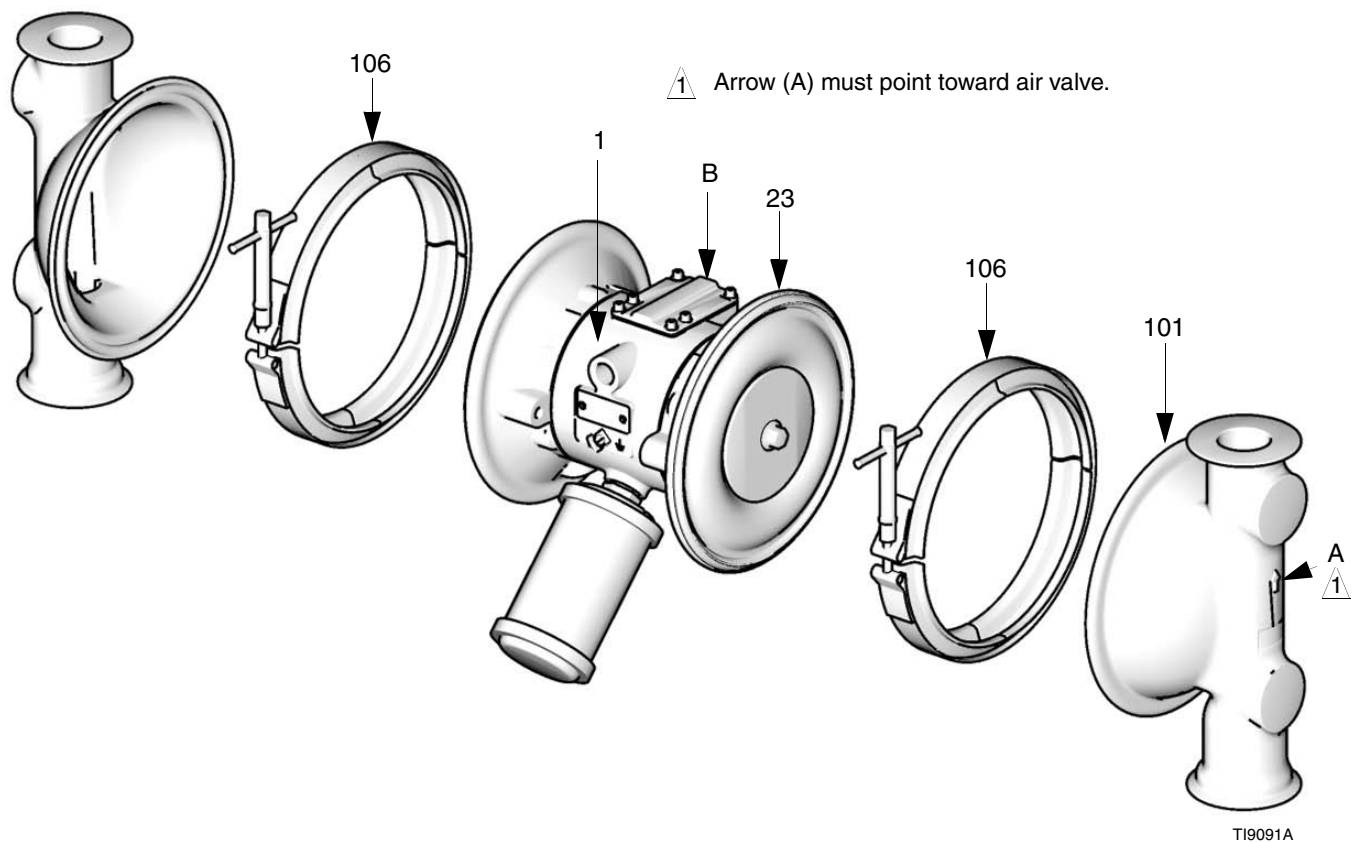
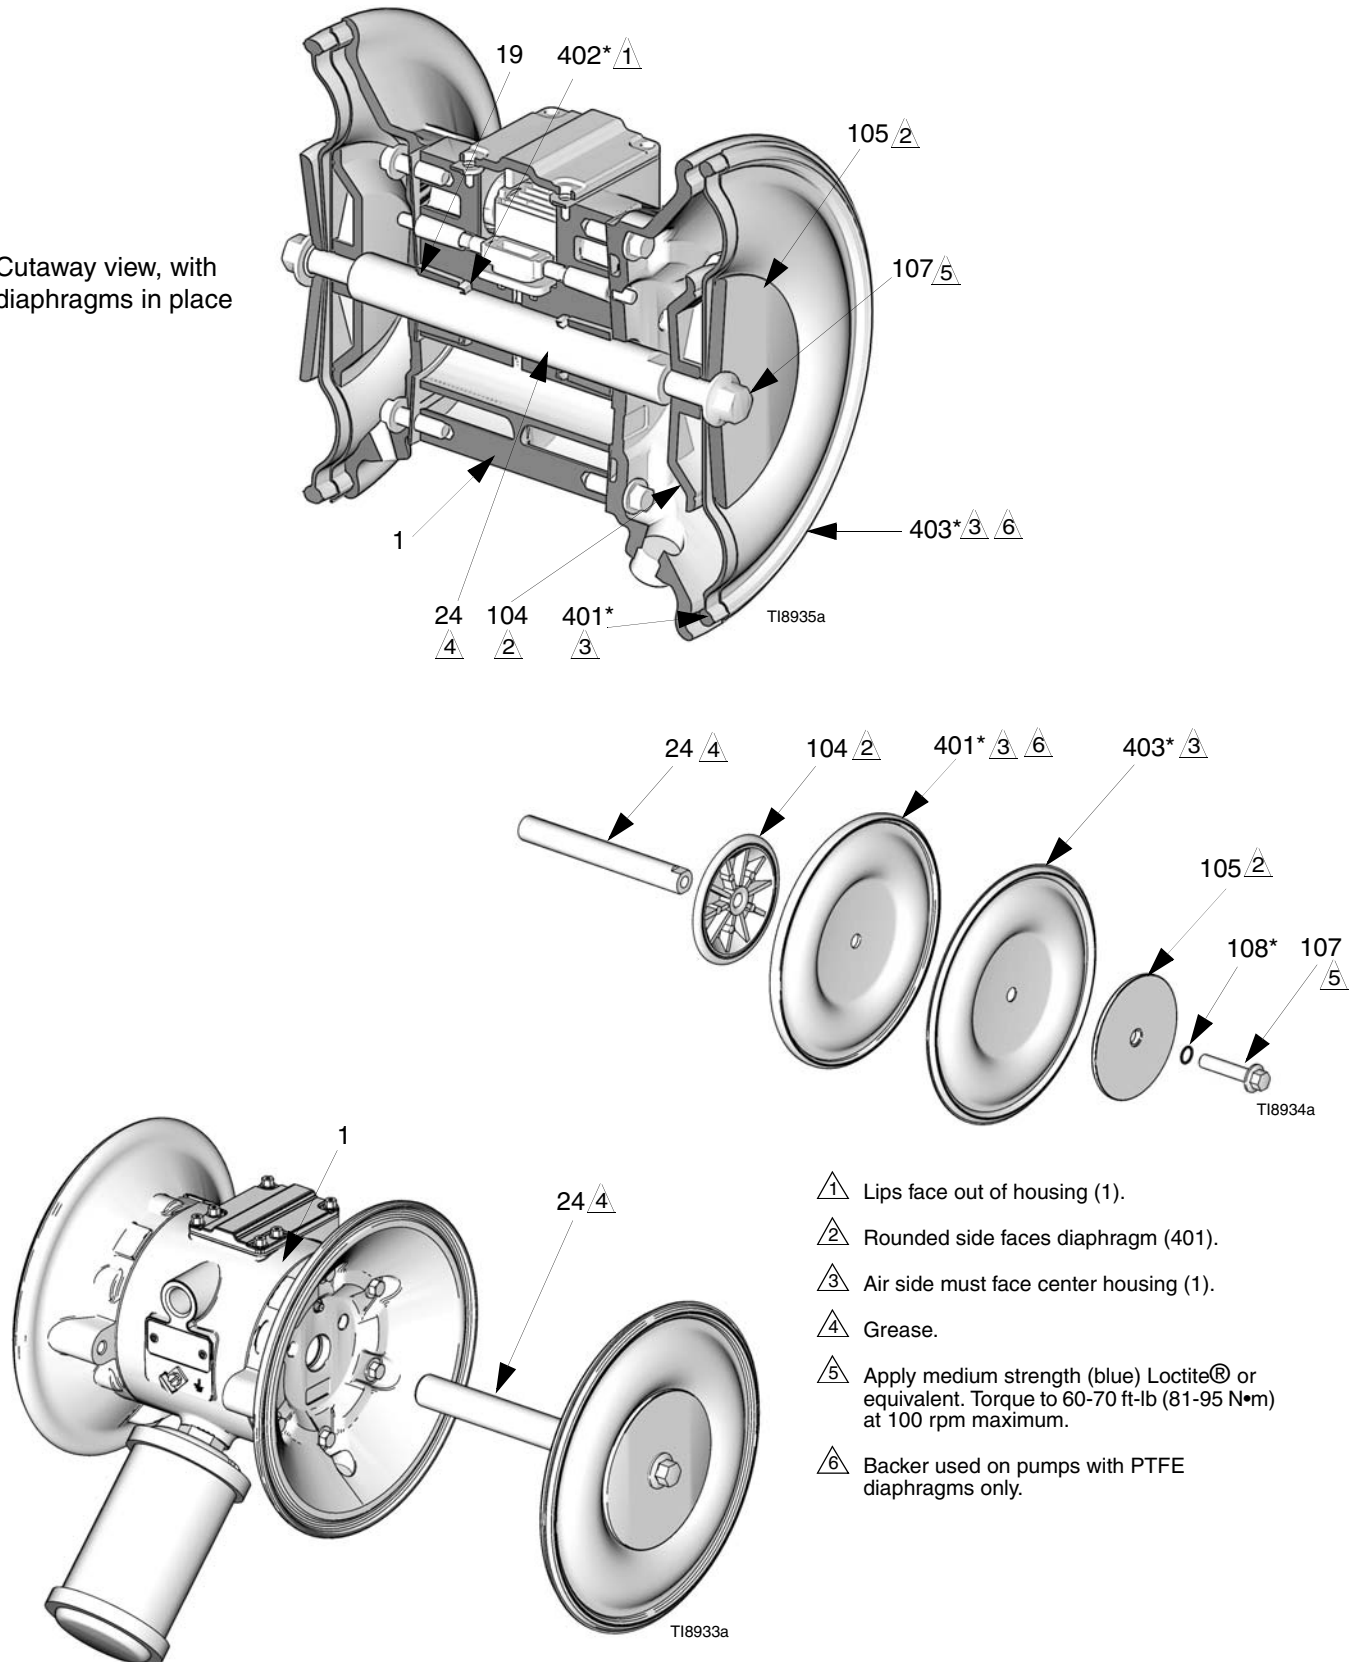

FIG. 10
FIG. 11
3. Remove the clamps (106) holding the fluid covers (101) to the air covers (23). Pull the fluid covers (101) off the pump. See FIG. 10.
4. Loosen but do not remove the diaphragm shaft bolts (107), using a 15 mm socket wrench on both bolts. See FIG. 11.
5. Unscrew one bolt from the diaphragm shaft (24) and remove the o-ring (108), fluid side diaphragm plate (105), diaphragm (403), backer (401) used only on PTFE models, and air side diaphragm plate (104). See FIG. 11.
6. Pull the other diaphragm assembly and the diaphragm shaft (24) out of the center housing (1). Hold the shaft flats with a 19 mm open end wrench, and remove the bolt (107) from the shaft. Disassemble the remaining diaphragm assembly.
7. Inspect the diaphragm shaft (24) for wear or scratches. If it is damaged, inspect the bearings (19) in place. If the bearings are damaged, refer to page 24.
8. Reach into the center housing (1) with an o-ring pick and hook the u-cup packings (402), then pull them out of the housing. This can be done with the bearings (19) in place.
- d. On PTFE models only, install the backer (401*) on the bolt. Make certain the side marked AIR SIDE faces the center housing (1).
- e. Install the air side diaphragm plate (104) so the rounded side faces the diaphragm (401). This plate is stamped with its part number.
- f. Apply medium-strength (blue) Loctite® or equivalent to the bolt (107) threads. Screw the bolt into the shaft (24) hand tight.
3. Grease the length and ends of the diaphragm shaft (24), and slide it through the housing (1).
5. Hold one shaft bolt (107) with a wrench and torque the other bolt to 60-70 ft-lb (81-95 N•m) at 100 rpm maximum.
6. Align the fluid covers (101) and the center housing (1) so the arrows (A) on the covers face the same direction as the air valve (B). Secure covers with the clamps. See FIG. 10.
1. Install the shaft u-cup packings (402*) so the lips face **out** of the housing (1). Lubricate the packings. See FIG. 11.
2. Install the diaphragm assembly on one end of the shaft (24) as follows:
- a. Install the o-ring (108*) on the shaft bolt (107).
- b. Install the fluid side diaphragm plate (105) on the bolt so the rounded side faces the diaphragm (401).
6. Remove the air cover gaskets (22). Always replace the gaskets with new ones.
7. Use a bearing puller to remove the diaphragm shaft bearings (19), air valve bearings (12) or pilot pin bearings (15). Do not remove undamaged bearings.
8. If you removed the diaphragm shaft bearings (19) reach into the center housing (1) with an o-ring pick and hook the u-cup packings (402), then pull them out of the housing. Inspect the packings. See FIG. 11.
1. If removed, install the shaft u-cup packings (402*) so the lips face **out** of the housing (1). See FIG. 11.
2. The bearings (12, 15, and 19) are tapered and can only be installed one way. Insert the bearings into the center housing (1), **tapered end first**. Using a press or a block and rubber mallet, press-fit the